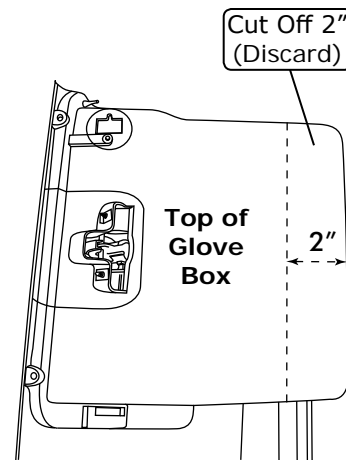

Figure 2
4. Modify the glove box as shown in Figure 2, below.